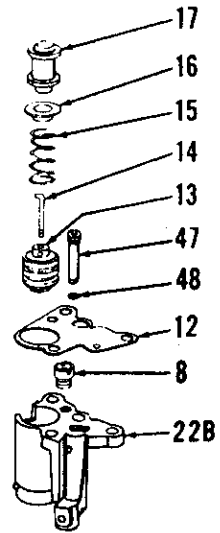

Fig. 102—On late models, accelerating pump cylinder is in metering valve body (22B) instead of carburetor body (22—Fig. 101).
Fig. 101—Exploded view of the Holley carburetor assembly. Metering cluster cover (A) is used on 2000, 3000 and 4000; check valve ball (6) and retainer (7) is used on early production units only. Note filter screen in inlet fitting (41). Refer also to Fig. 102.